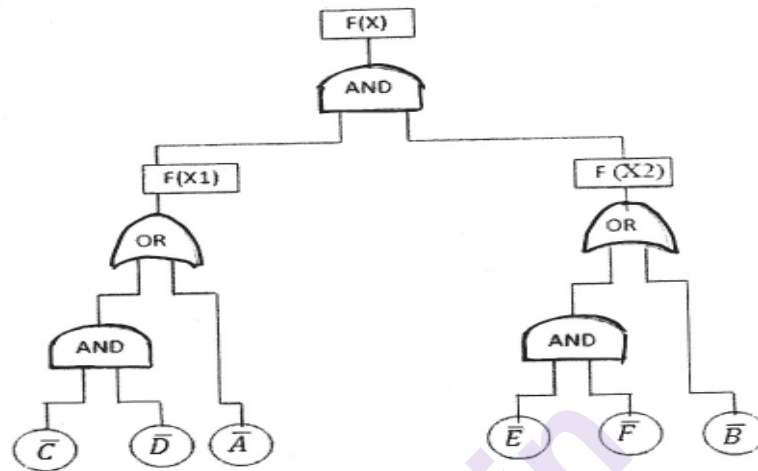

Figure 3
- Q7) a)** The figure 3 shown below is a fault tree diagram. The failure modes of A, C and D have failure rates 0.002, 0.001 and 0.004 per hour respectively. The failure modes of B, E and F have failure rates 0.001, 0.003 and 0.002 per hour respectively. Find out the failure rate of the system. Also, draw the block diagram of the system. [10]